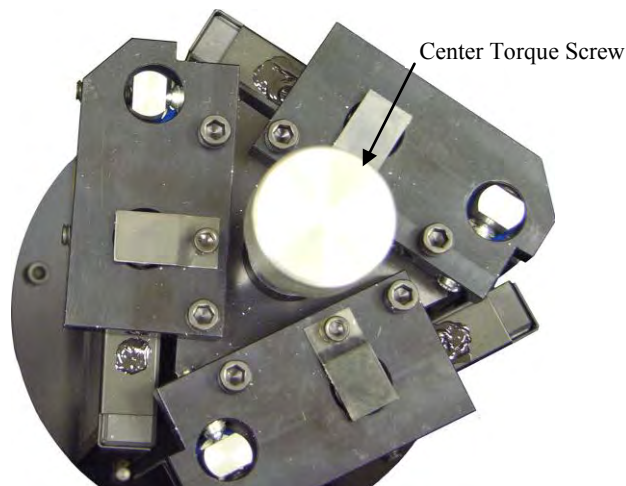
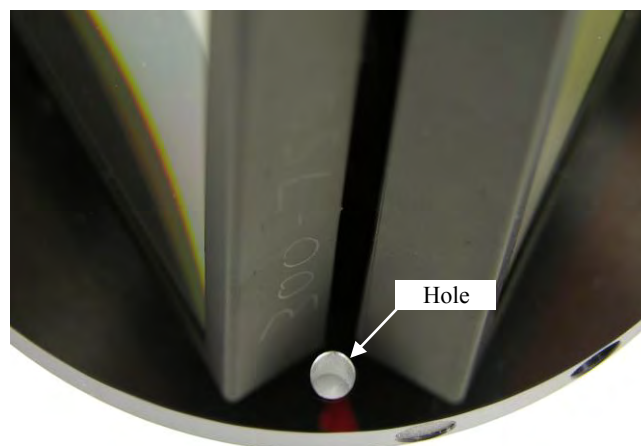

Figure 2-4. Center Torque Screw
Figure 2-5. Location of Hole on Turret Grating Assembly
2. Become familiar with the components as labeled on Figure 2-4, Figure 2-5, Figure 2-6 and Figure 2-8.
6. Locate the hole near the edge between gratings on the grating turret assembly (see Figure 2-5).